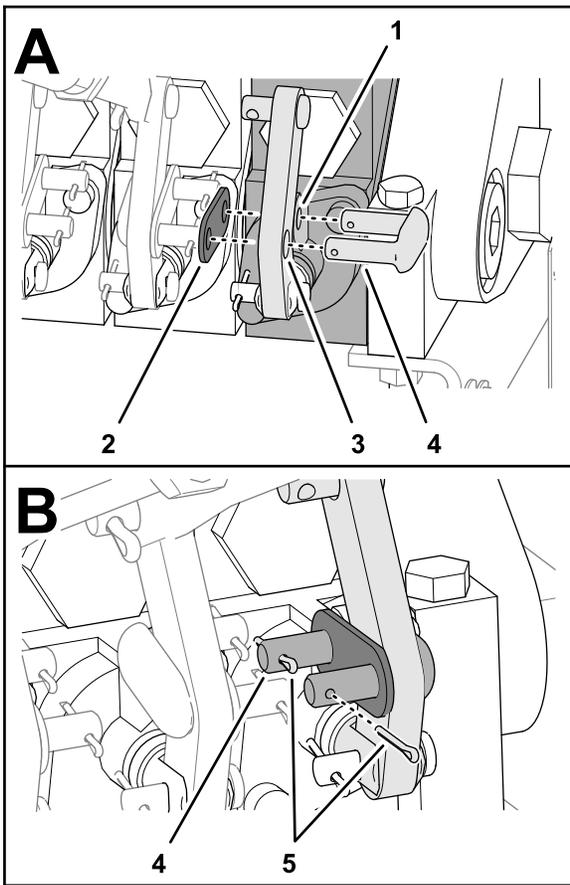

Figure 21
- Assemble the link through the holes in the mounting tab of the control valve and the control lever (Figure 21).
4. Secure the link to the valve and lever with the link plate and 2 cotter pins (Figure 21).